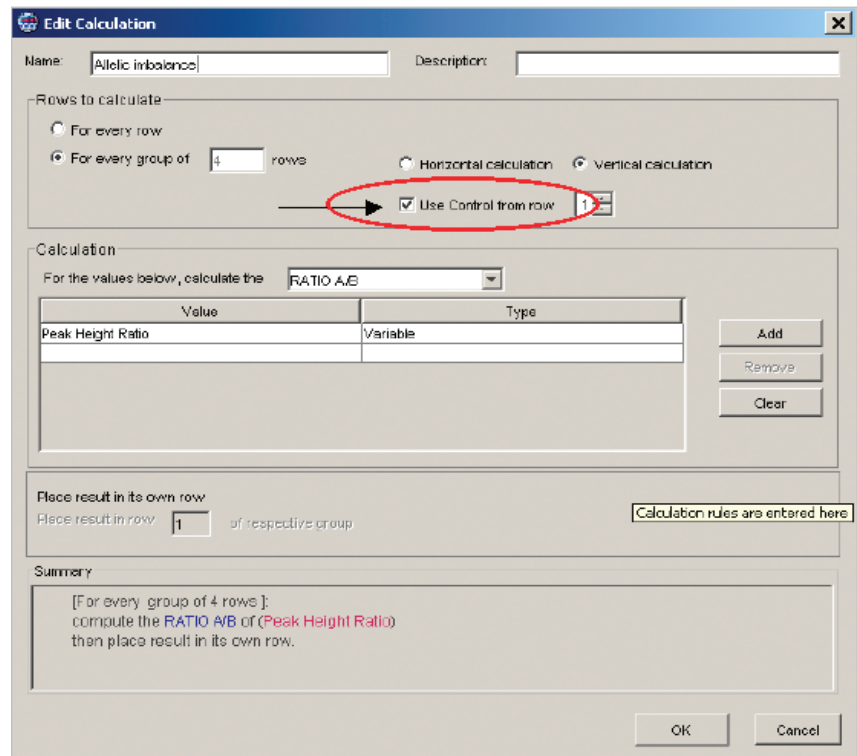

Figure 8. Values for LOH candidates can be determined using the Calculations tab.
Step 2 Calculate the value for LOH using the values in Step 1 and the formula shown below. You can specify the row in which the control healthy sample is present as shown in Figure 8.